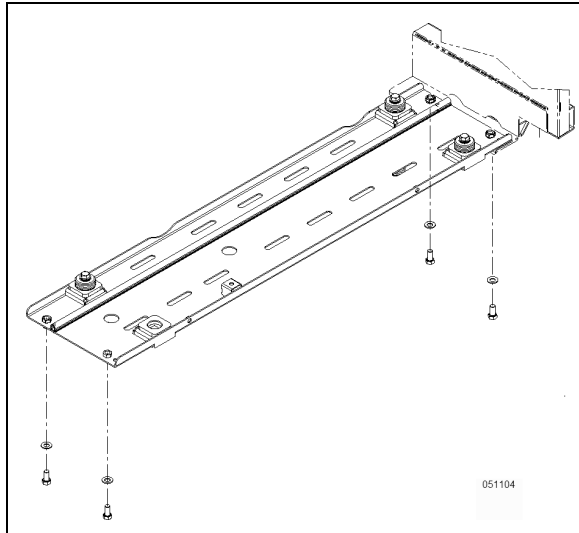

**FIGURE 35: RADIATOR DOOR LOWER HINGE BRACKET**
14. Remove the radiator door lower hinge bracket (Figure 35).